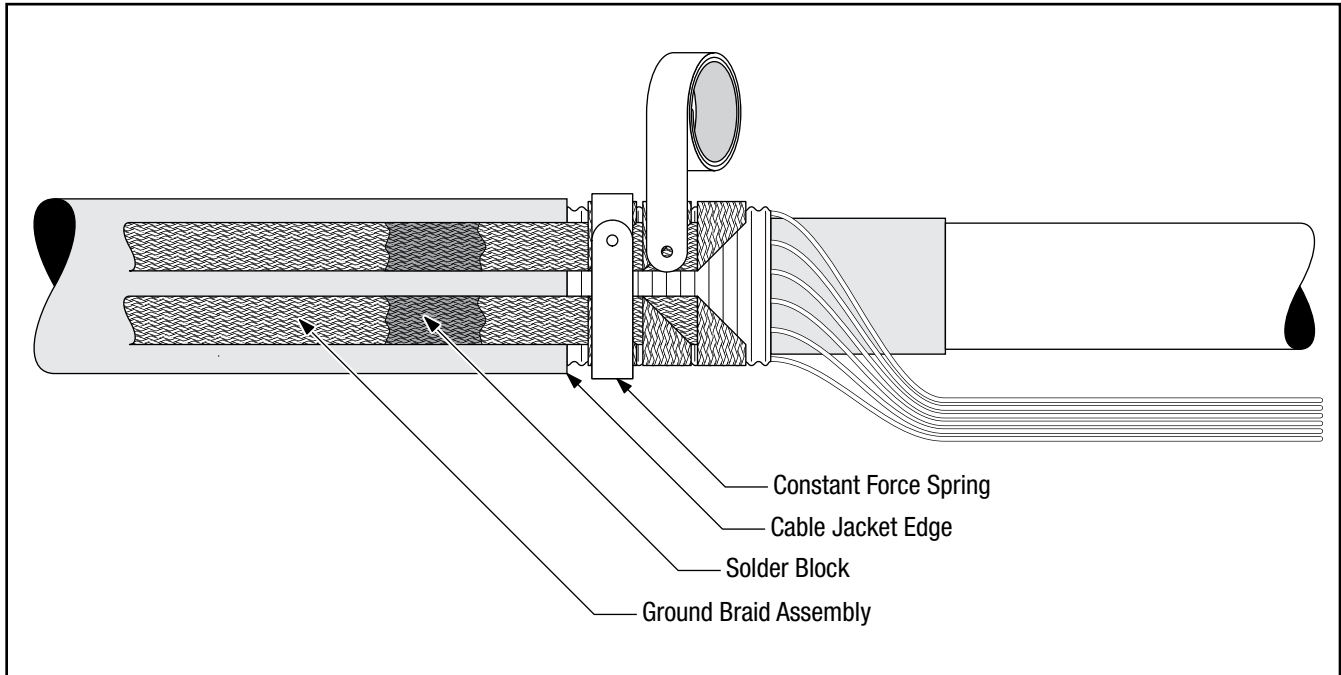

Figure 4
- 2.3 Select the 3 constant force springs from the kit. Starting at the loop of the ground braid assembly nearest the cable jacket edge, install the 3 constant force springs, one around each ground braid loop. Cinch (tighten) the springs after wrapping the final turn. Extend the ground braid tails down the cable jacket. (*Figure 4*)